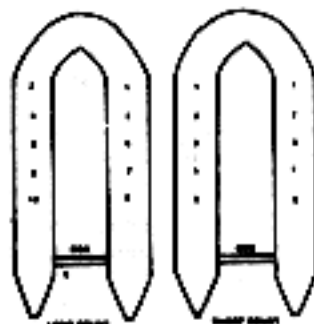

Figure 9-2. Crew positions, long count and short count.
d. Crew is positioned as shown in figure 9-2.